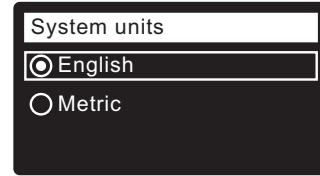

FIG. 28
9. **SYSTEM UNITS** If the desired system already has a dot next to it (See Figure 28), go to Step 10. Otherwise, press the DOWN (▼) or UP (▲) buttons to scroll to the desired system, then press the SELECT (O) button to choose it.
10. Press the SELECT (O) button.